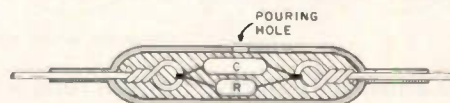

Fig. 5. CCD capacitor/resistor assembly encapsulated inside plastic hot and cold water pipe. See text for construction details.
Several methods of assembling the capacitor/wire sections have been employed successfully. These have included: (1) bridging the components across small strain insulators; (2) utilizing spacing insulators salvaged from large coaxial transmission lines; (3) encapsulating the components inside a light plastic tube (Figs. 5 and 6); and (4) spiraling dual wires about a nylon rope and taping each capacitor for waterproofing (Fig. 7).
The second Mills CCD antenna was built by W4ATE, as shown in Fig. 5. Thin-wall hot/cold plastic water pipe and the liquid casting material were purchased at Sears. The #18 copperweld wire and polystyrene capacitors are stocked by Burstein-Applebee, 3199 Mercier St., Kansas City MO 64111.